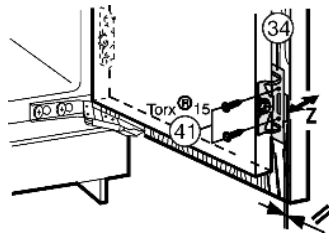

Fig. 25
- ▶ Fasten the appliance door to the unit door with screws Fig. 25 (41) through the mounting brackets Fig. 25 (34).